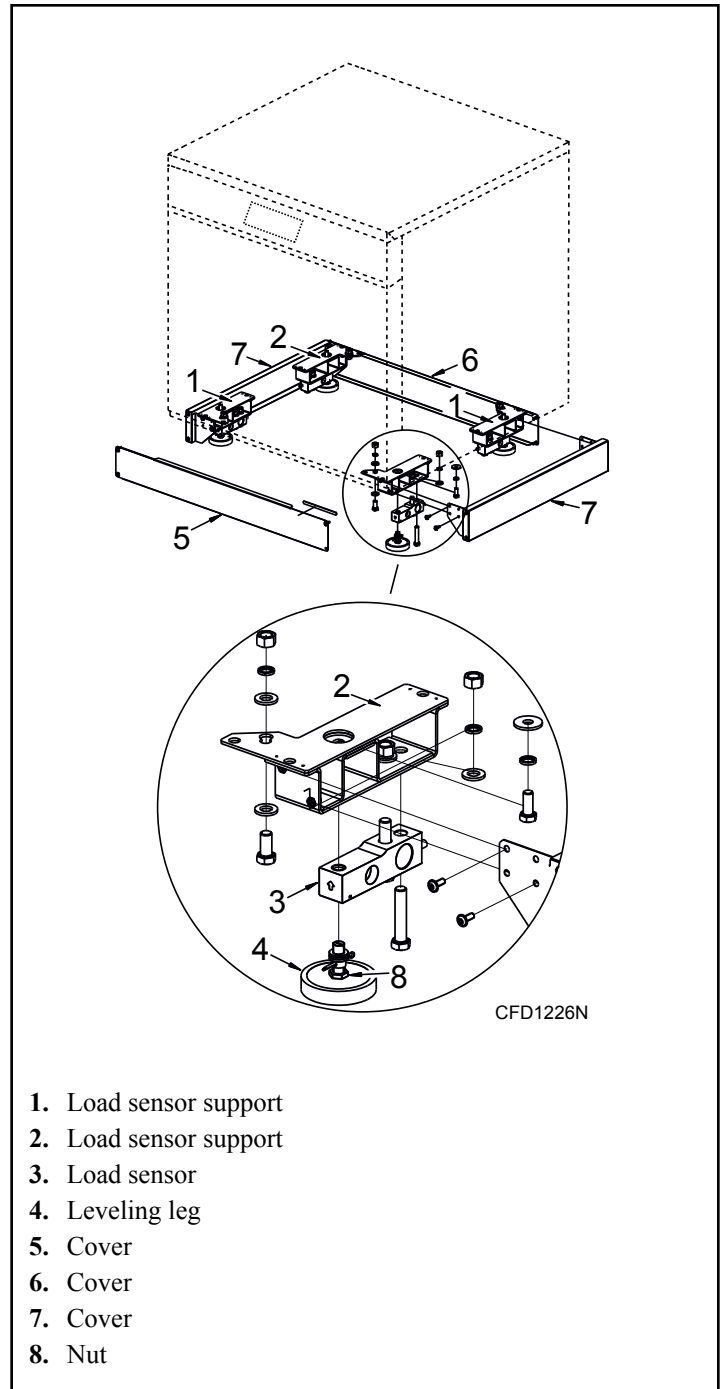

Figure 8
2. Install two left load sensor supports and two right load sensor supports to the machine frame. Refer to *Figure 8*.
11. Install the covers. Refer to *Figure 8*.